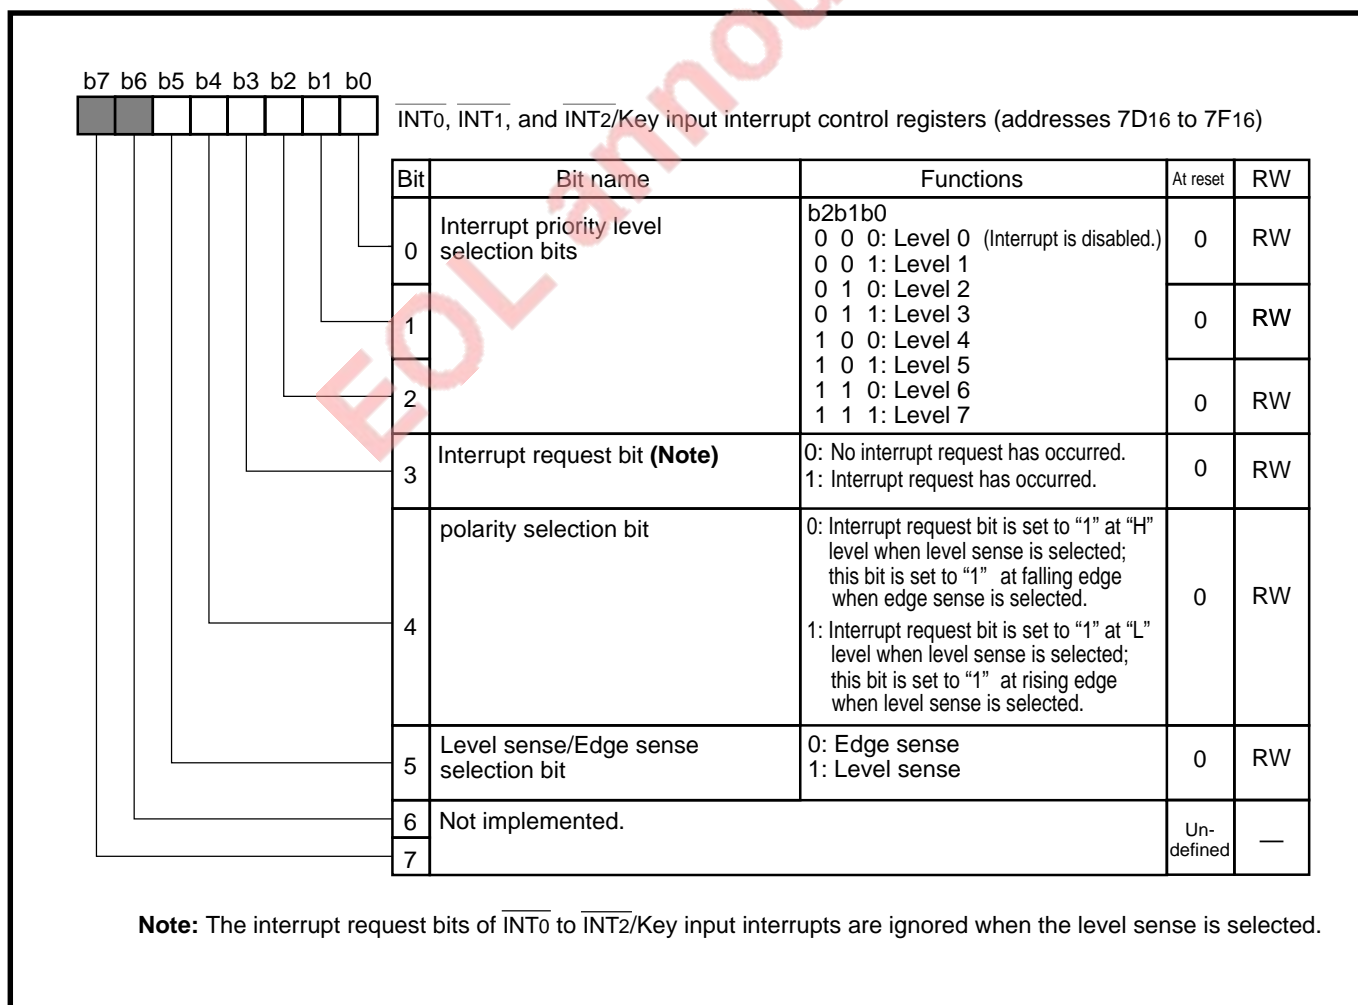

Fig. 4.10.2  $\overline{INT}_0$  to  $\overline{INT}_2$  interrupt control register's structure
An external interrupt request occurs by input signal from pin  $\overline{\text{INT}}_i$  ( $i = 0$  to  $2$ ). The occurrence condition of an external interrupt request can be selected by the level sense/edge sense selection bit and the polarity selection bit (bits 5 and 4 at addresses 7D16 to 7F16) shown in Figure 4.10.2. Table 4.10.1 lists the occurrence condition of  $\overline{\text{INT}}_i$  interrupt request.
**Note 2:** “b5” and “b4” represent bits 5 and 4 of the  $\overline{\text{INT}}_0$  to  $\overline{\text{INT}}_2$ /key input interrupt control register. (Refer to “**Figure 4.10.2.**”)